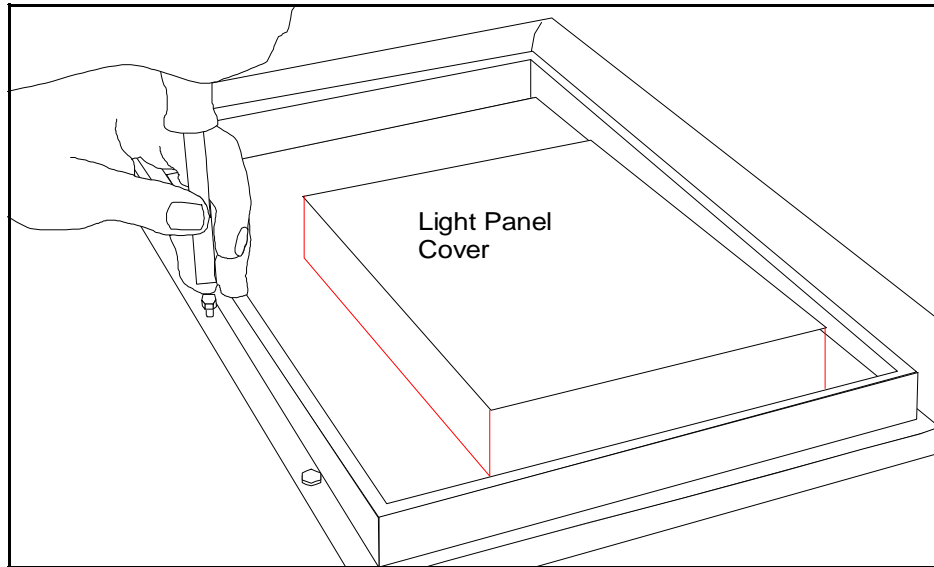

Figure 2-6 Installing the Authorization Light Panel (PN 887124-001)
4. With the back of the authorization light panel facing toward you, install the device in the bezel. See Figure 2-6.